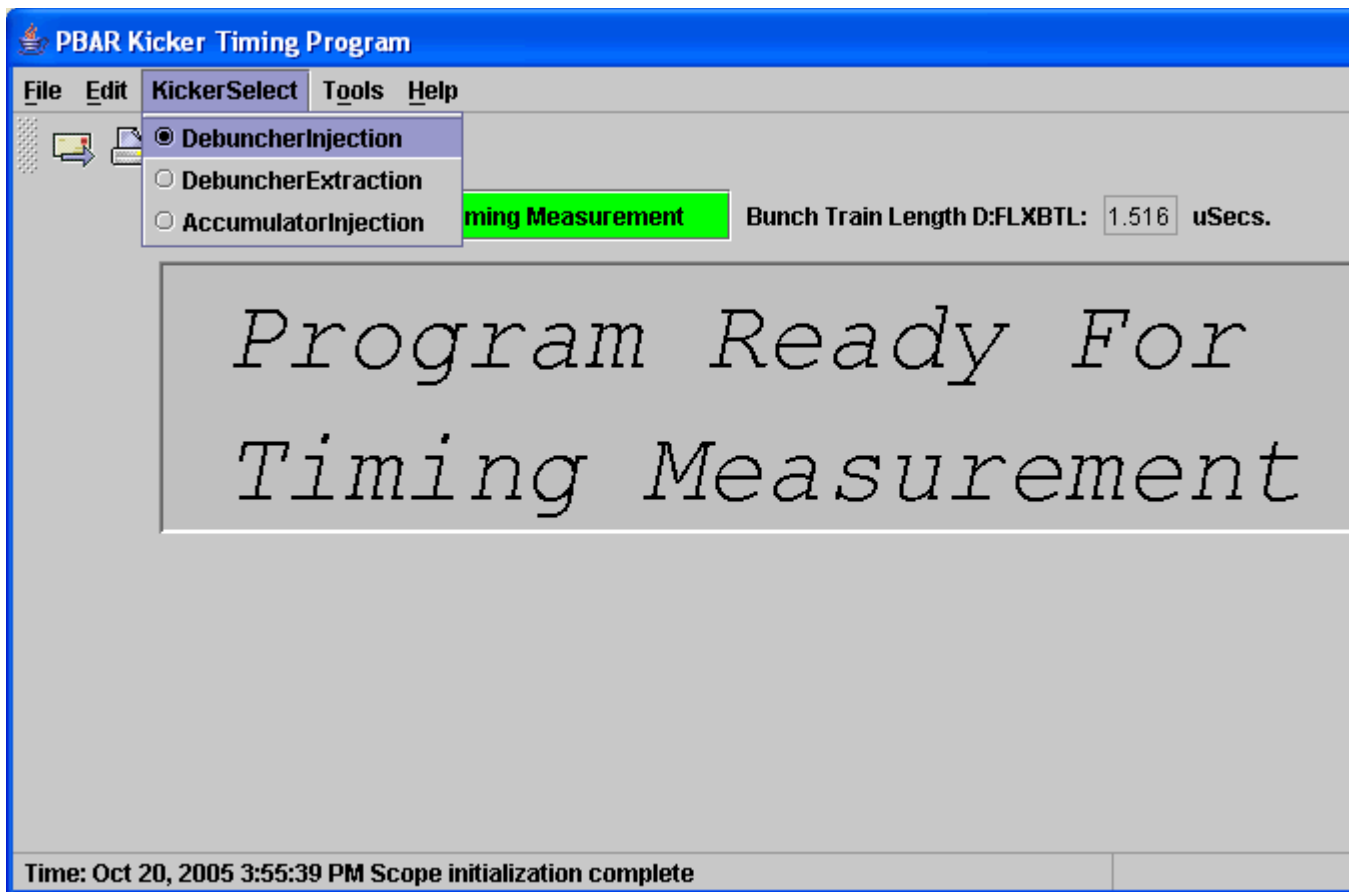

Figure 15: The Java Pbar Kicker Timing Program. Click on "KickerSelect" and then select "DebuncherInjection"
- From the Java Kicker Timer Program application, go to "KickerSelect" -> "DebuncherInjection" as shown in Figure 15.